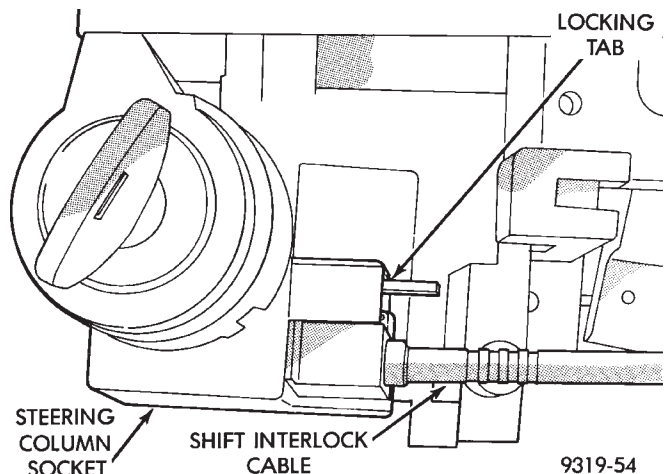

Fig. 32 Shift Interlock Cable Installed
(8) If vehicle is equipped with a floor shifter, turn ignition key to the run position and install the shift interlock cable into steering column socket (Fig. 32). Be sure locking tab on interlock cable (Fig. 32) is fully engaged with steering column socket.